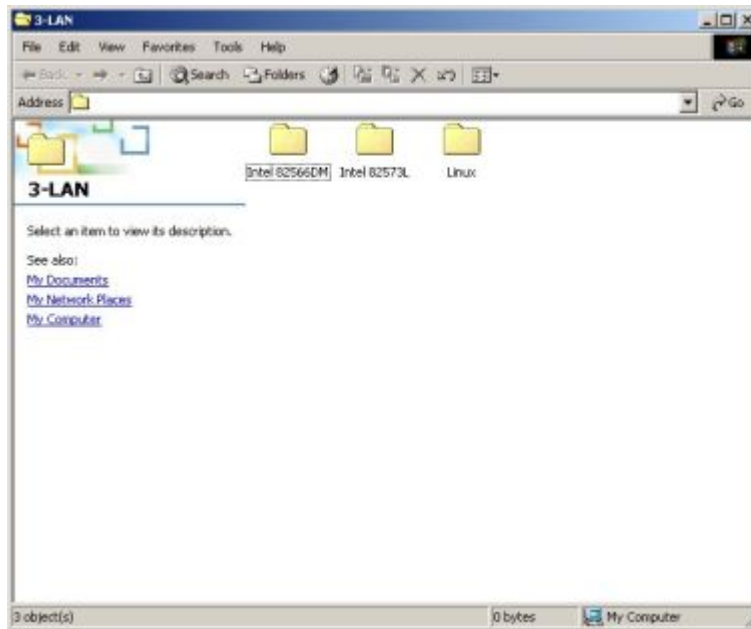

Figure 7-29: Intel® 82573 Driver Directory Icon
Step 2: The window in **Figure 7-29** appears.
Step 3: Click on the **Intel® 82573L** directory icon in **Figure 7-29**.